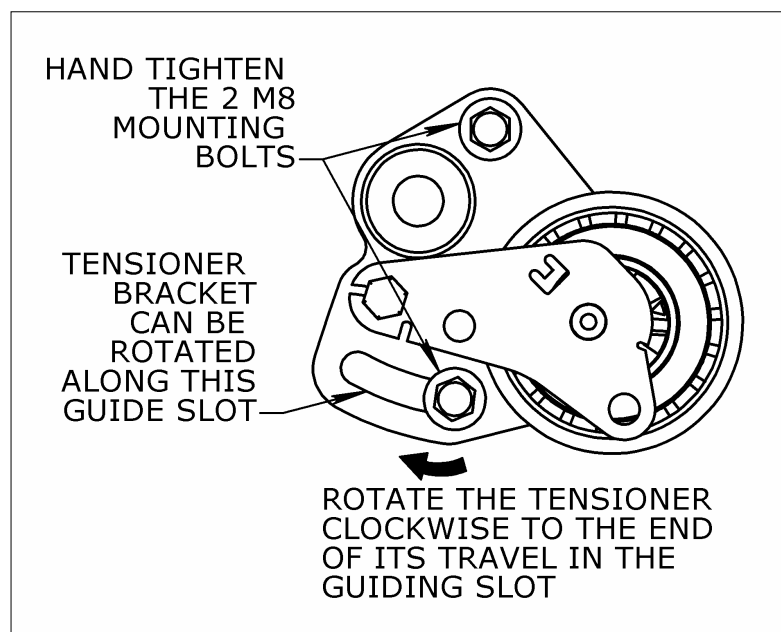

Figure 3: Initial Tensioner Setup
6. Hand tighten (lightly) the 2 mounting bolts, ensure that the tensioner bracket can be easily rotated along its guiding slot for ease of installation (Figure 3). Rotate the tensioner assembly clockwise to the end of its travel in the guiding slot. This will maximize the belt clearance for ease of belt installation.